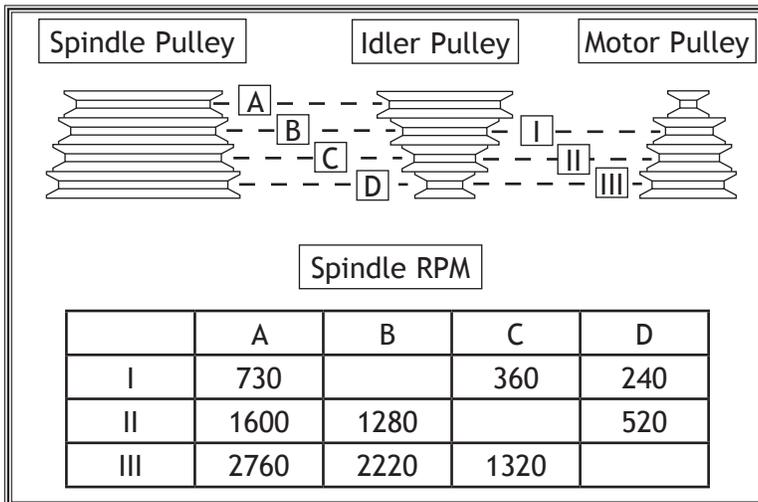

Figure 24. M1001 Spindle speed chart in RPMs.
1. Examine the Spindle Speed Chart in Figure 24 to find the closest match to your needed RPM.